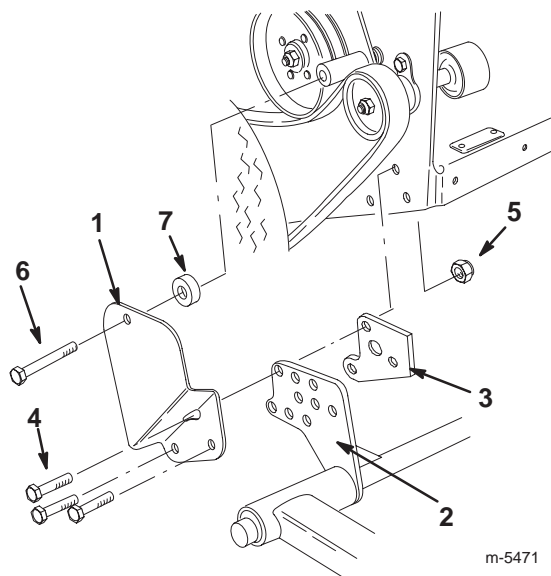

Figure 4
2. Remove the 4 bolts and nuts securing the bottom of the two pulley guards on the sides of the frame (2 bolts and nuts on each side) (Fig. 4).
- Remove the long bolt and nut securing the top of each pulley guard (Fig. 4) and discard the bolt.
- Insert the axle mounting brackets between the pulley guards and the frame (Fig. 4).
- Insert the large spacers between the axle mounting brackets and the frame, lining up the holes (Fig. 4).
- Using the 6 bolts (3/8 x 1-3/8 in.) and locknuts (3/8 in.) supplied with the sulky, secure the bottom of the pulley guards, the axle, and the spacers as illustrated in Figure 4.
- Slide the small spacers between the top of the pulley guards and the mounting tube on the frame, and secure them using 2 bolts (3/8 x 4-1/2 in.) and the nuts removed in step 3 (Fig. 4).